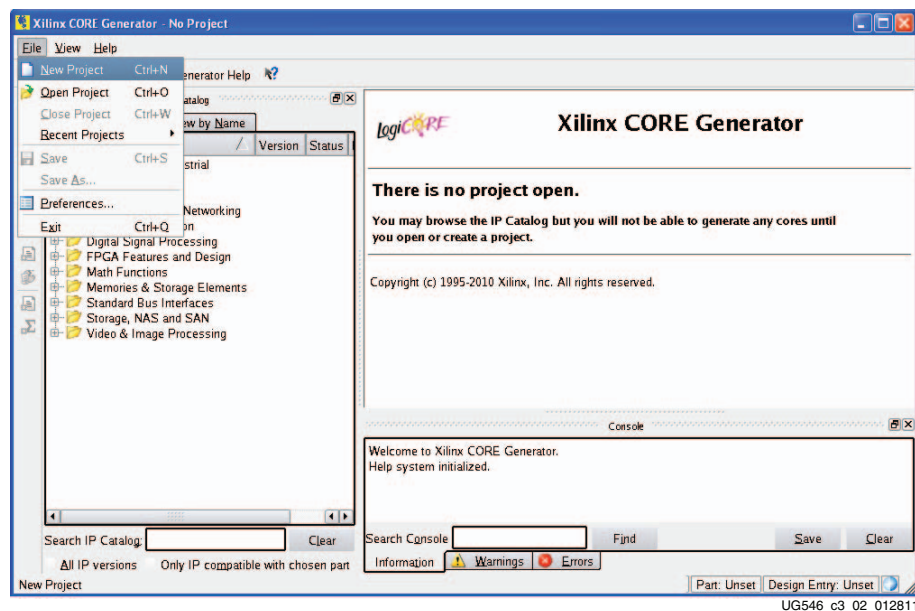

Figure 3-4: Starting a New Project
3. Choose **File** → **New Project** (Figure 3-4).